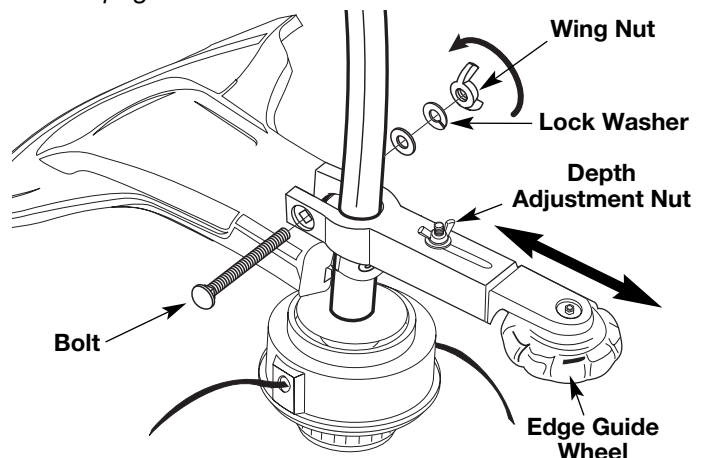

Fig. 5
2. Push edge guide wheel onto the shaft just above the cutting attachment shield (Fig. 5). Some force may be required. The depth adjustment nut must be on top.
4. Adjust the edging depth by loosening the depth adjustment nut. Then move the guide wheel along the path shown by the thick arrow (Fig. 5) until the wheel reaches the desired position and then tighten securely.